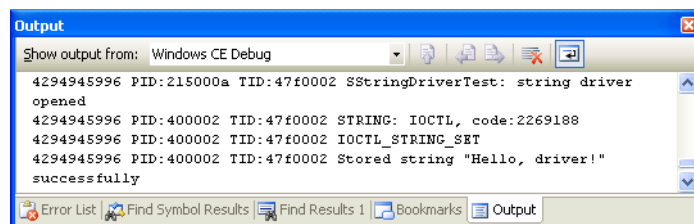

Figure 6-12 A debug message from the string driver
9. The Debug window should show the message **Stored String "Hello, driver!" Successfully** when you run the application, as shown in Figure 6-12.